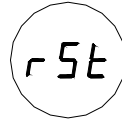

Figure 18: Relay Reset
- The relays can be reset via the magnetic switch using a magnet. Place the magnet over the GM logo on the cover of the unit. After three seconds, the display will show "rSt". Remove the magnet at this time and the relays will be reset (**Figure 18**).